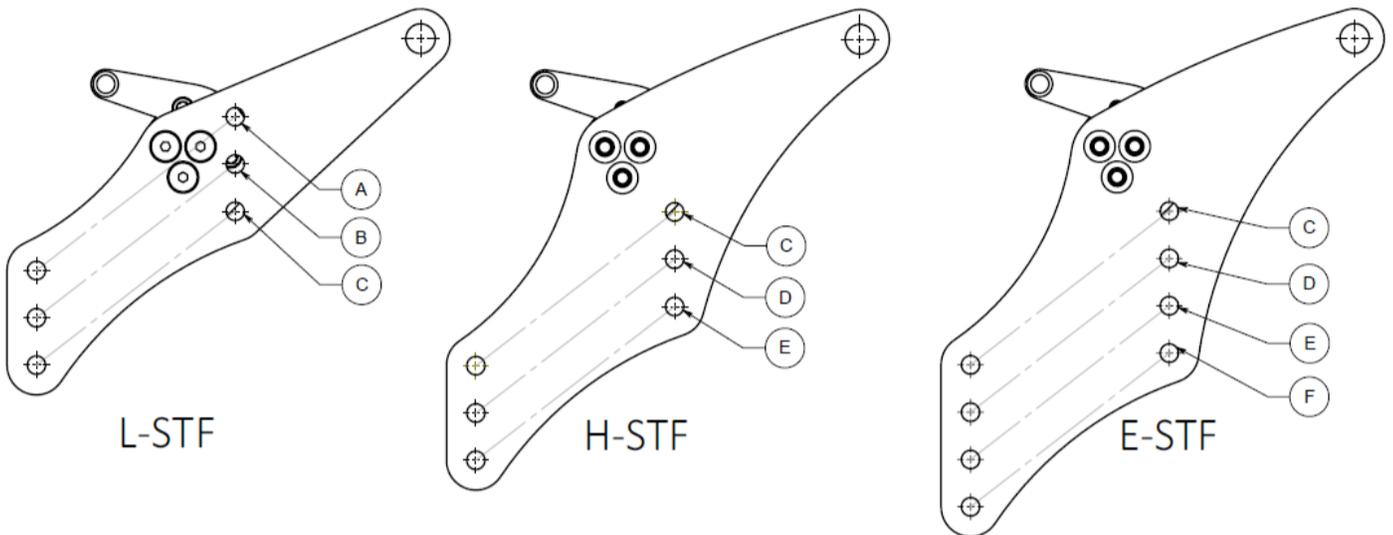

Figure 15.8: Bentley Wheelchair Positions
4. Reposition the sub frame onto the lower frame. There are multiple seat height options for each chair. Refer to Figure 15.8, Table 15.1 and Table 15.2. Once the holes on the sub frame, lower frame, and shim are lined up, insert the lower seat